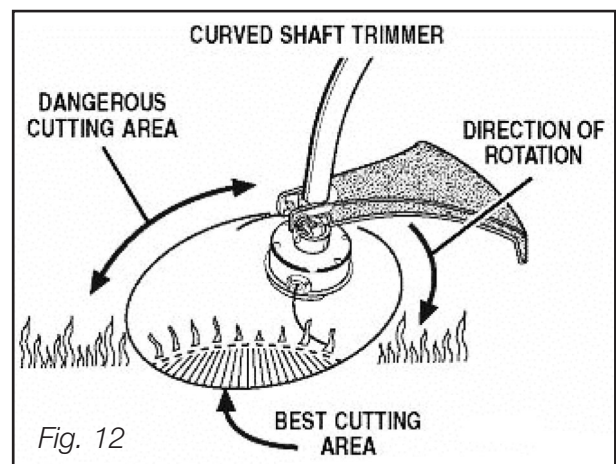

Fig. 12
2. The curved shaft trimmer cuts when passing the unit from right to left. This will avoid throwing debris at the operator. Avoid cutting in the dangerous area shown in Figure 12.